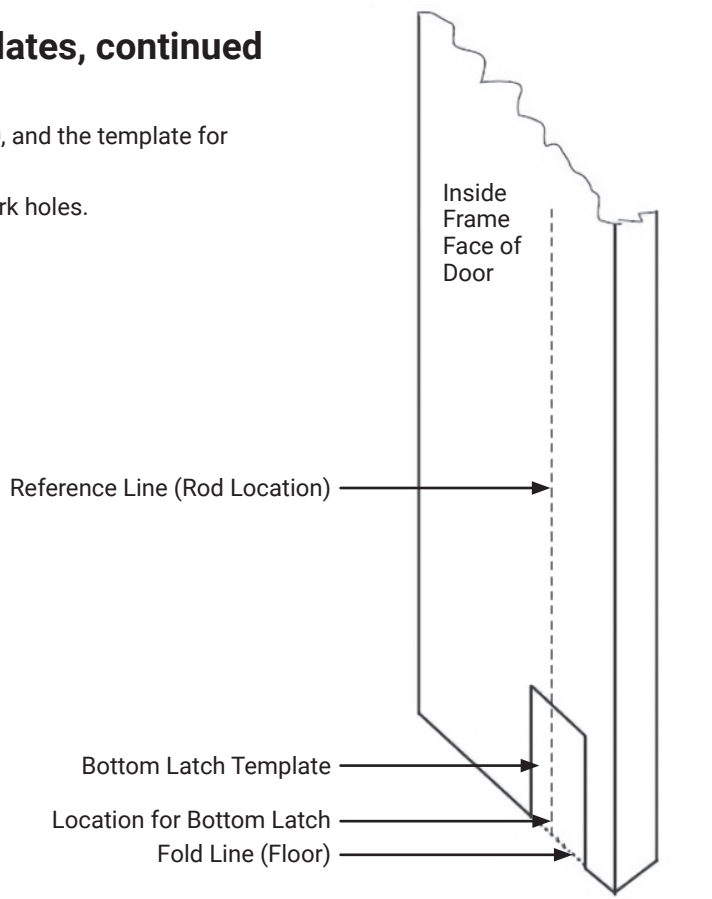

Figure 9
1. Locate the bottom latch template. See **Figures 9 & 10**, and the template for correct positioning.
1. Locate the bottom strike template. See **Figures 9 & 10**, and the template for correct positioning.